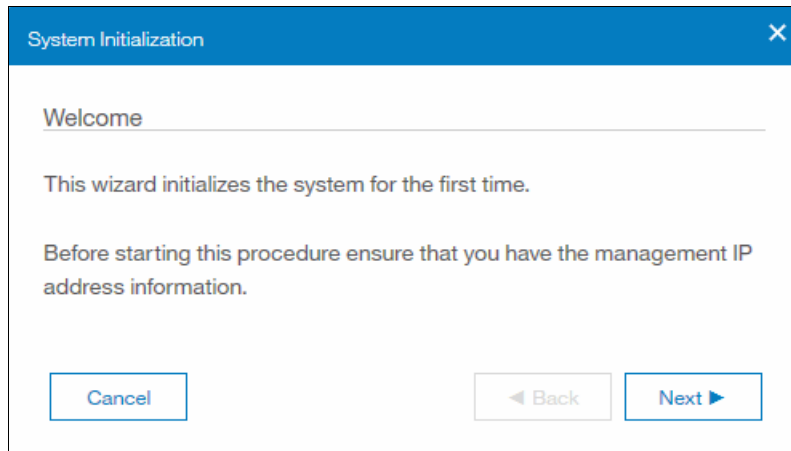

Figure 6-57 System initialization welcome pane
5. The System Initialization Welcome pane is displayed (Figure 6-57).